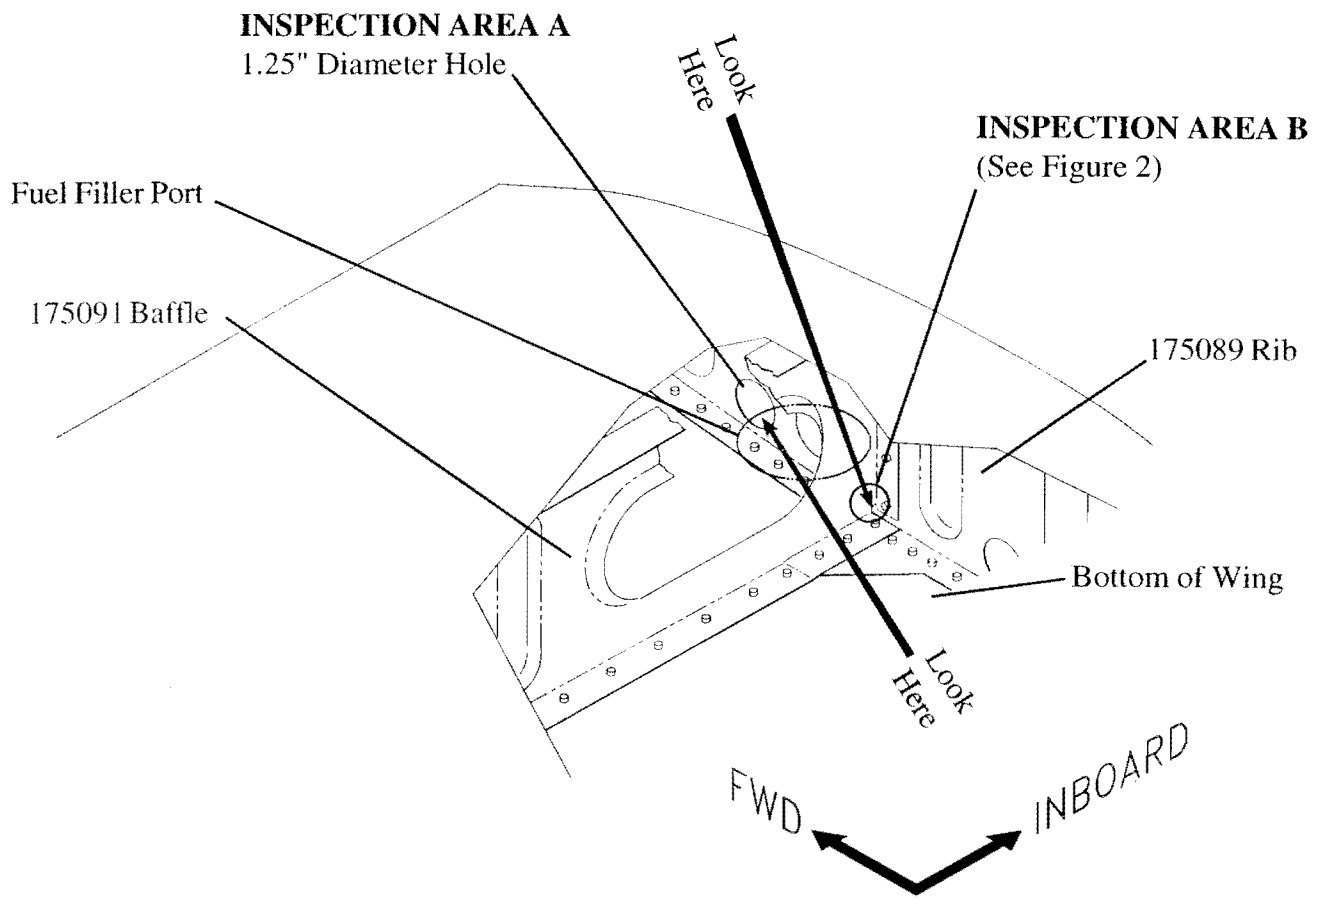

Figure 1.
2. Refer to Figure 1, Inspection Area A. Using a flashlight, look down into the fuel tank through the fuel filler port and as far forward as possible past the 175091 Baffle. Inspect the 175089 Rib for a 1.25 inch diameter hole. If there is a 1.25 inch diameter hole in the rib, recap the fuel filler port and proceed to the RECORD COMPLIANCE section of this Service Bulletin. If there is no 1.25 inch diameter hole in the rib, proceed to PART II: INSPECTION OF THE 175091 BAFFLE.
2. Refer to Figure 1, Inspection Area B. Looking forward and inboard of the fuel filler port, inspect the area where the 175089 rib and the 175091 Baffle meet the bottom of the wing.